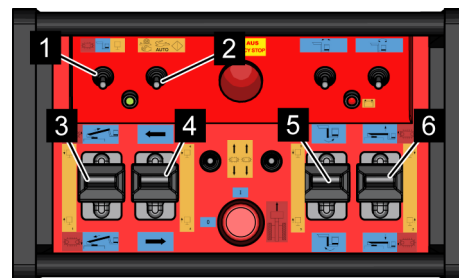

Fig. 69: Operation of outriggers
7. ➤ Press the toggle switch (Fig. 69/1) to the right into the [Outrigger function] (yellow) position.
8. ➤ Press the toggle switch (Fig. 69/2) to the left into the [Manual] position.
9. ➤ With the control levers (Fig. 69/3 to 6) select the desired outrigger(s) and extend the outrigger in question by pressing the corresponding control lever forwards.